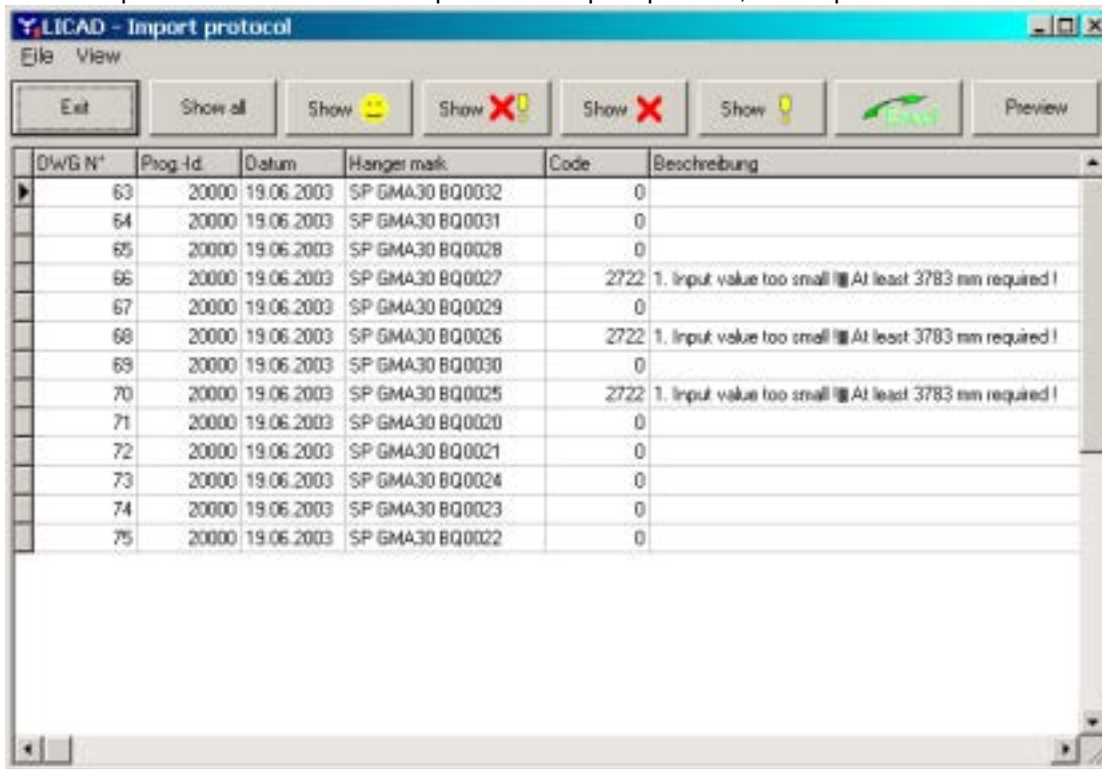

Figure 52: Displaying the import protocol
Drawings which have been saved can be printed out either individually or in a so-called batch procedure (Figure 52).
The input screen is structured analogously to Figure 52. The entries are to be made as described under program item 5.2.